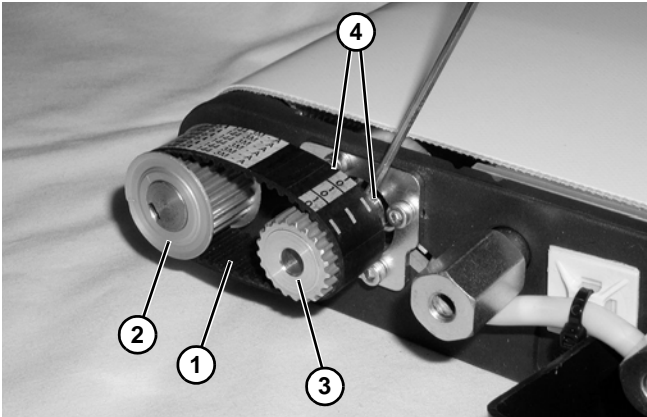

Figure 62
3. Slip timing belt (**Figure 62, item 1**) over driven pulley (**Figure 62, item 2**) and slide drive pulley (**Figure 62, item 3**) through timing belt onto gearmotor shaft.
4. Tighten drive pulley set screws (**Figure 62, item 4**) on gearhead shaft, making sure one set screw is over flat on shaft, and drive pulley is aligned with driven pulley.